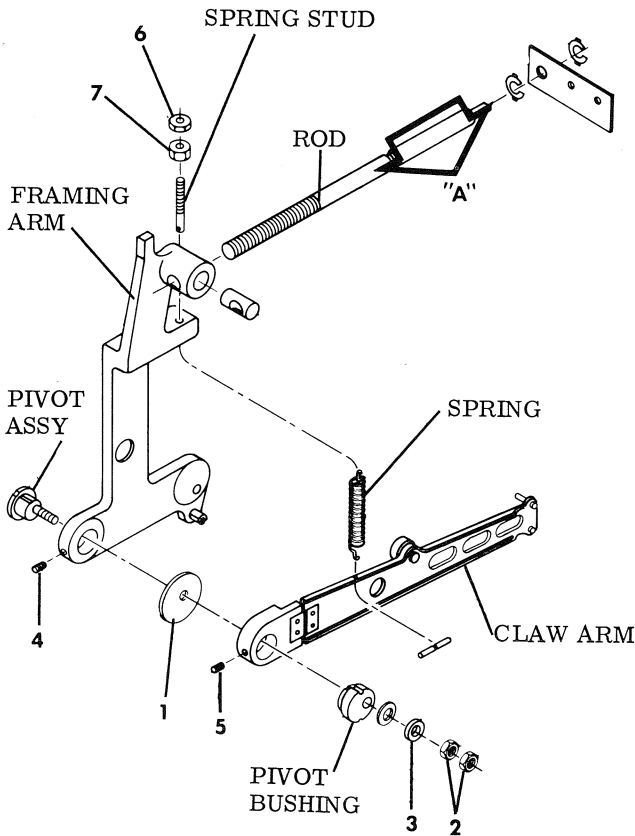
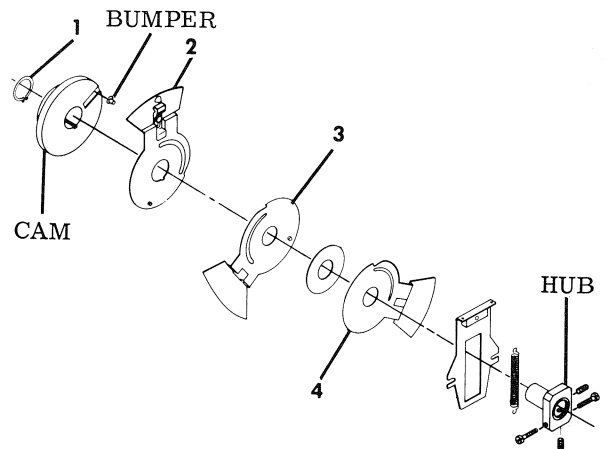
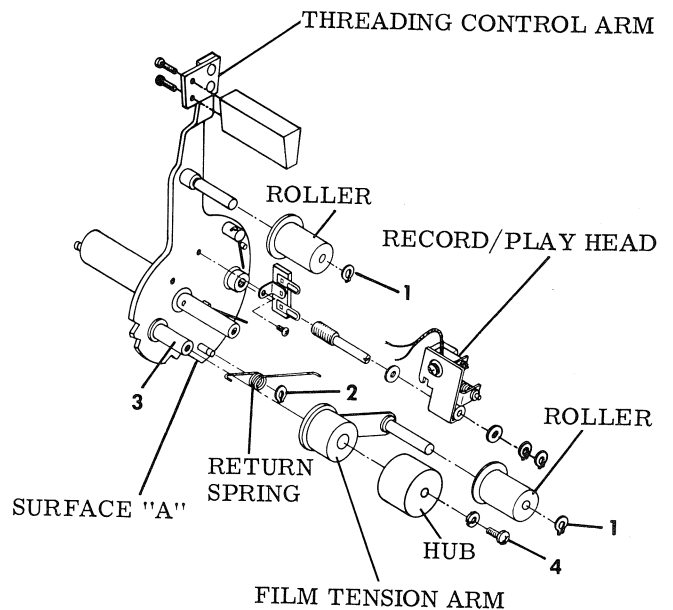

Figure 3-16. CLAW ARM COMPLETE
Figure 3-17. SHUTTER & CAM ASSEMBLY
Figure 3-18. THREADING CONTROL ARM
3. Claw Arm Complete (Figure 3-16)
- b. Lubricate interface between claw arm and washer (1) with FS-1290 grease.
- c. Adjust nuts (2) to obtain a minimum end play of 0.001 to permit claw arm to pivot freely on the framing arm before spring is assembled.
- d. Apply Glyptal ZV-903 to nuts (2) and washers (3).
4. Shutter & Cam Assembly (Figure 3-17)
- a. Ring (1) must be pressed on hub allowing no end play on cam.
5. Threading Control Arm (Figure 3-18)
- b. Allow 0.005 to 0.015 end play between rings (1) and rollers by adjusting rings (1) to obtain end play.
- c. Ring (2) must be assembled with throat parallel to bottom edge of control arm (surface "A") and facing closest edge of control arm. Return spring must rotate freely without end play.
- d. Apply DC-200 to surface of stud (3) and to face and inside diameter of hub.
- e. Tighten screw (4) to 95-105 inch ounces of torque.